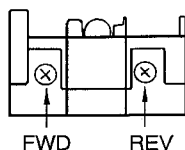

Fig. 3
- Please replace both azimuth adjustment screws (RHE5152ZB) and springs (RMB0331) used for the forward and reverse sides to new ones simultaneously when readjusting the head azimuth. (Shown in Fig. 3, 4.)